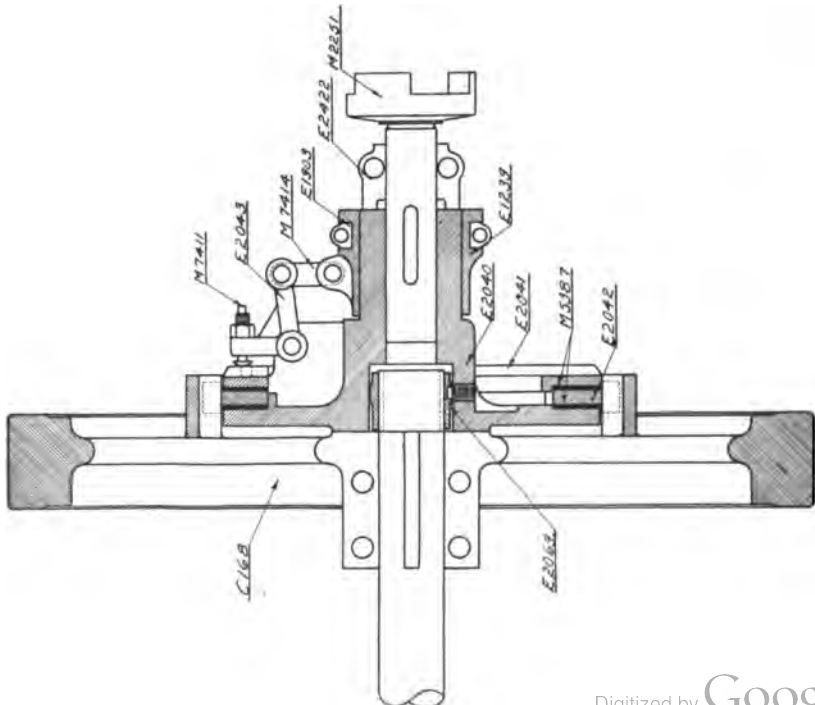

Fig. 37.
- 233** — Fig. 37 shows the master clutch for "Caterpillar" 75s from 2200 to 2763. The flange carrying the lugs with which the master clutch engages is cast integral with the flywheel.
On the master clutch is located a grease cup not shown on Figs. 37 or 38. This grease cup feeds oil into the cavity between E2040 and the crankshaft to lubricate the bronze bushing E2069, which rotates over the crankshaft and remains stationary with E2040, being held by means of a headless set screw shown in the above figures. This grease cup should be turned up a couple of turns at least twice a day.
- 236** — Keep milled clutch M2251 (Figs. 37 and 38) and E1919 (Fig. 39), in the discussion of the transmission, in close contact. This adjustment is made by keeping transmission tight on frame and clamping E2422 into the desired position.